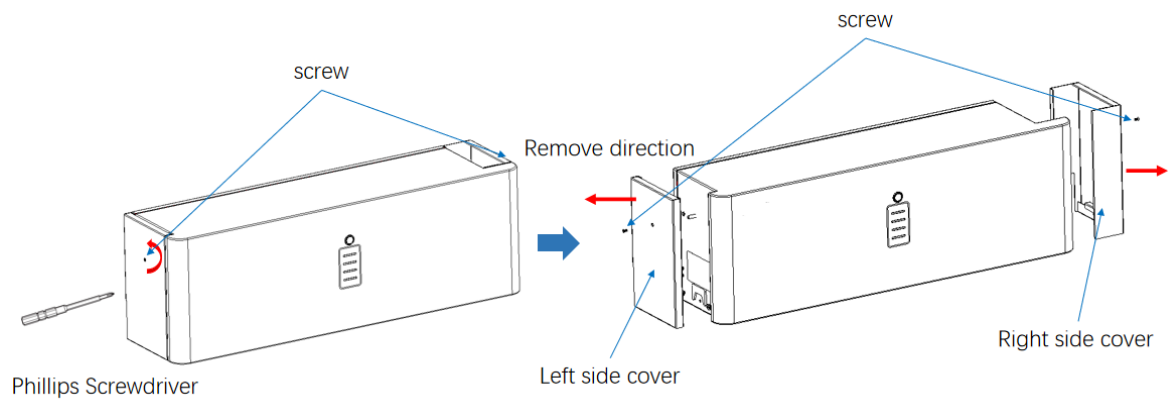

Figure 28 Remove the side cover from the control box
**Step 2:** Installing Outdoor shielded twisted pair cable to RJ45 Crystal Head as wire color sequence shown in Figure 28